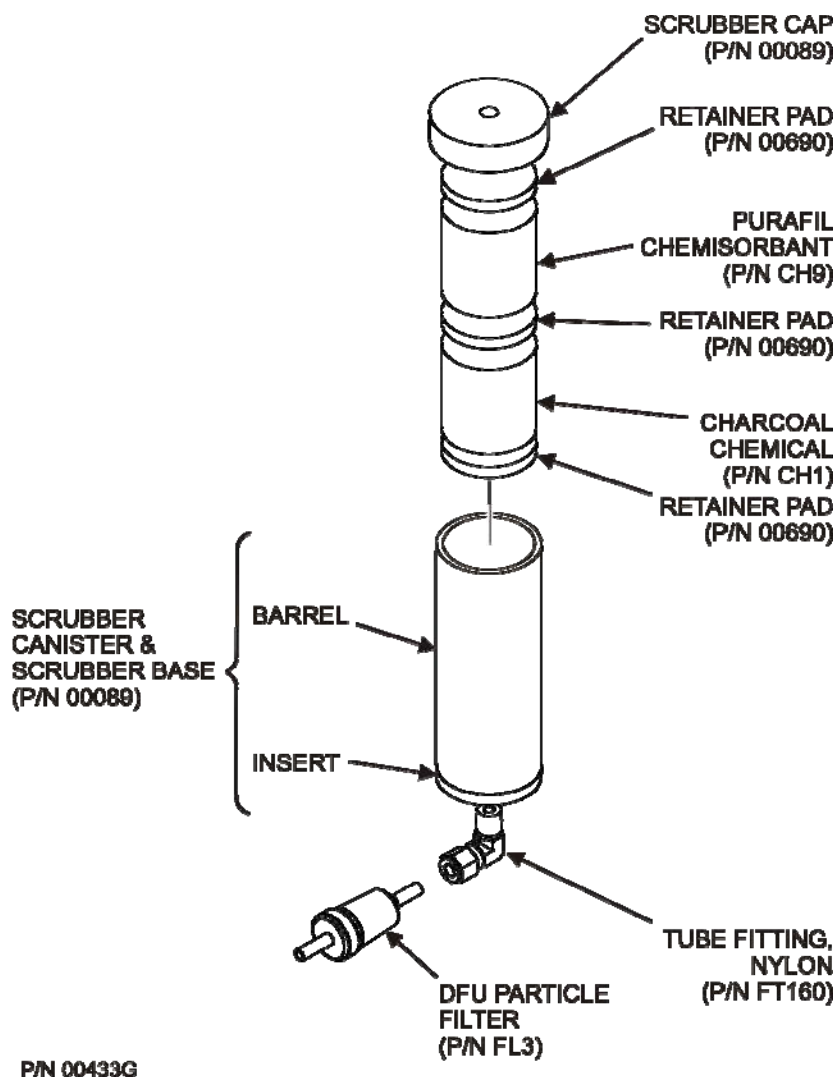

Figure 11-4: Zero Air Scrubber Assembly
1. Locate the scrubber on the outside rear panel; Figure 11-4 shows the exploded assembly.
- Use three, white retainer pads to separate the chemicals as shown Figure 11-4